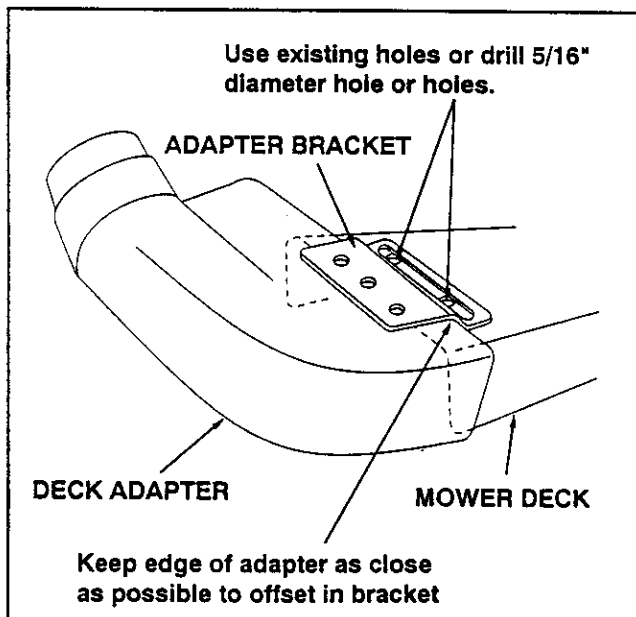

FIGURE 31
- Holding the adapter bracket and the deck adapter together, position the deck adapter on the mower deck. Keeping the edge of deck adapter as close as possible to the offset in the adapter bracket, see if the slot in the adapter bracket can be aligned with one or two of the deflector holes in your mower deck's discharge opening. If the bracket can not be located correctly using existing holes, it will be necessary to drill one or two 5/16" diameter holes in the deck. See figure 31.